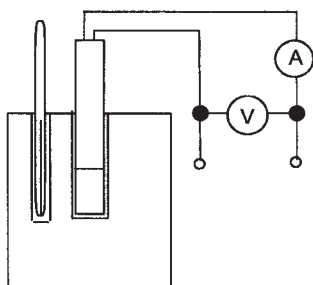

Figure 8.5 Activity 2
- 2 Determine the specific heat capacity of a solid. One method that can be used involves the use of a metal block which has been drilled so that a 12 V electric immersion heater fits into one hole and a thermometer into another (Figure 8.5). The heater is switched on for 5 minutes. The highest temperature reached is noted. The power IV delivered to the heater can be measured by an ammeter and voltmeter. Neglect heat losses to the surroundings. To ensure that the thermometer makes good thermal contact with the block, a little oil should be placed in the hole.